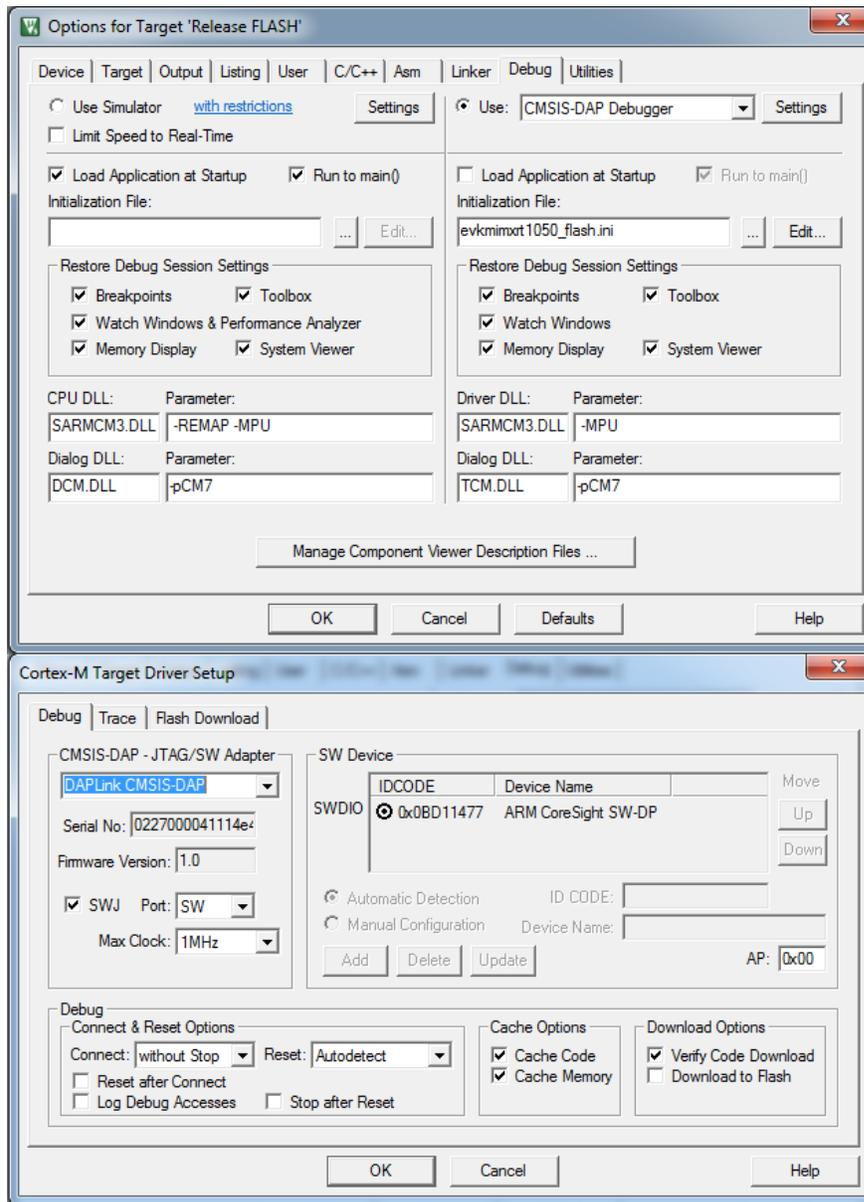

Figure 19. Keil - Release FLASH debugger settings
2. Choose CMSIS-DAP as the debugger. Go to “Project->Options For Target->Utilities” tab and uncheck “Update Target before Debugging”. Switch to the “Debug” tab and set the options as follows (Figure 19).
1. Power down the board. Configure the board to the serial download mode. To achieve this, the SW7-4 should pull up and the others should pull down (Figure 19). Then power up the board.